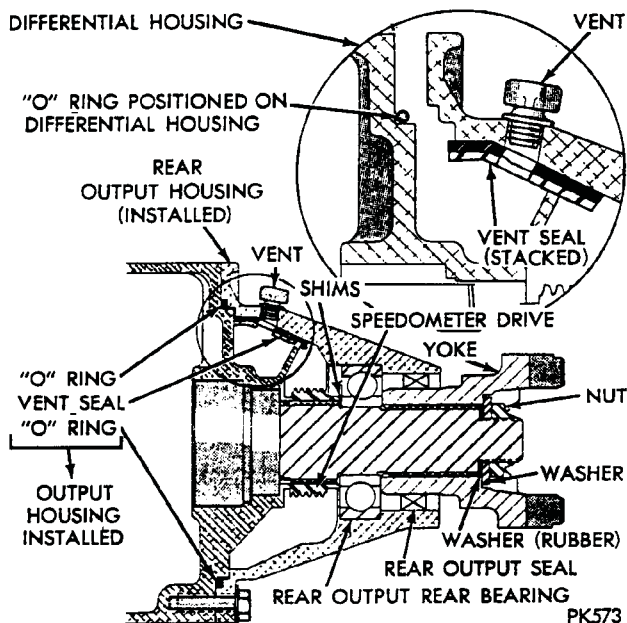
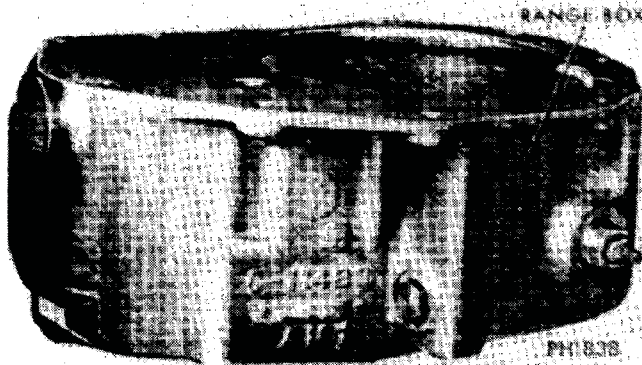
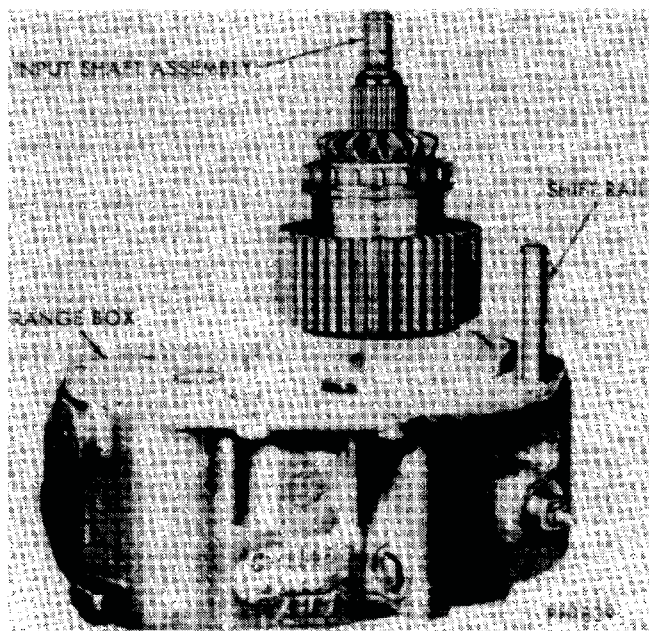
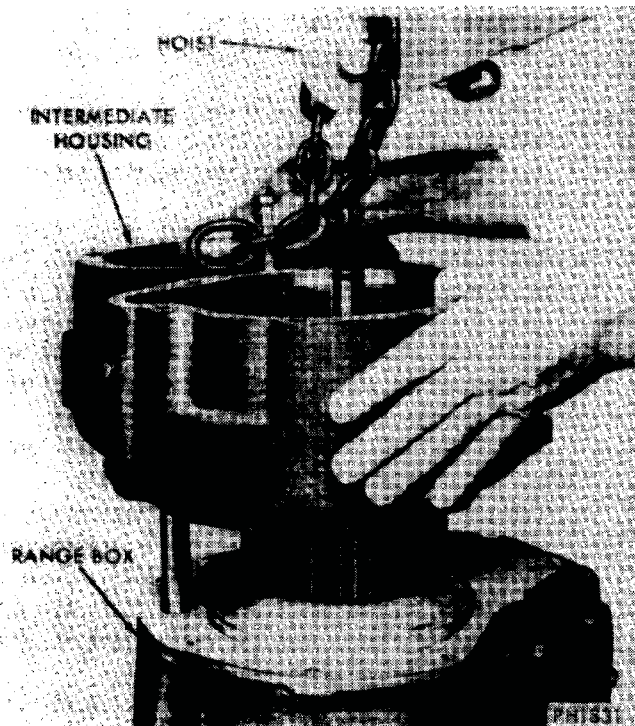

Fig. 23—Rear Output Housing Assembly
Fig. 24—Range Box Positioned for Assembly
Fig. 25—Shift Rail in Installed Position
Fig. 26—Installing Intermediate Housing on Range Box
(4) Install two new seal(s) on inside surface of output housing, centering the holes at vent opening (Fig. 23) (Stack the two seals).
(5) Position sealing "O" Ring on differential housing as shown (Fig. 23).
- (1) Place range box on blocks with front (input) side down (Fig. 23).
- (2) Position gasket on range box (Range Selector Housing).
- (3) Install lockout clutch and drive sprocket assembly on input shaft assembly. **A 2 inch band type clamp or other similar device may be used to retain loose bearings.**
- (4) Install input shaft, lockout clutch and drive sprocket assembly into range box, aligning tab on bearing retainer with notch in gasket.
- (5) Connect lockout clutch shift rail to the connector link and position rail in housing bore (Fig. 24). Rotate shifter shaft while lowering shift rail into housing, to prevent the link and rail from being disconnected.
- (6) Install drive chain in chain housing, positioning the chain around outer wall of housing.
- (7) Install chain housing on range box (Fig. 25), engaging shift rail channel of housing to shift rail. Position chain on input drive sprocket.
(8) Install front output sprocket in case, engaging drive chain to sprocket. Rotate clutch drive gear to aid in positioning chain on drive sprocket.
(9) Install shift fork on clutch assembly and shift rail, then push clutch assembly fully into drive sprocket. Install roll pin retaining shift fork to shift rail.
(10) Install outer retainer ring on front output shaft bearing and install bearing into housing bore.
(11) Install front output shaft bearing retainer, gasket and retaining bolts.
(12) Install front output shaft seal, yoke, dust shield, rubber seal, washer and retaining nut. Tap dust shield back into place after installing bolts in flange.
(13) Install front output shaft rear bearing retainer, gasket and retaining bolts. **If rear bearing was removed, position new bearing to outside face of cover and press into cover until flush with opening.**
(14) Install differential carrier assembly on input shaft. (Carrier bolt head toward rear of shaft.)
(15) Install rear output housing assembly, gasket and retaining bolts (Load bearings in pinion shaft).
(16) With yoke nut at least .06 loose, push or tap end of rear output shaft into unit. This will put differential into close mesh for next check. Check rear output shaft end play as follows:
- (a) Install dial indicator on rear housing (Fig. 26).